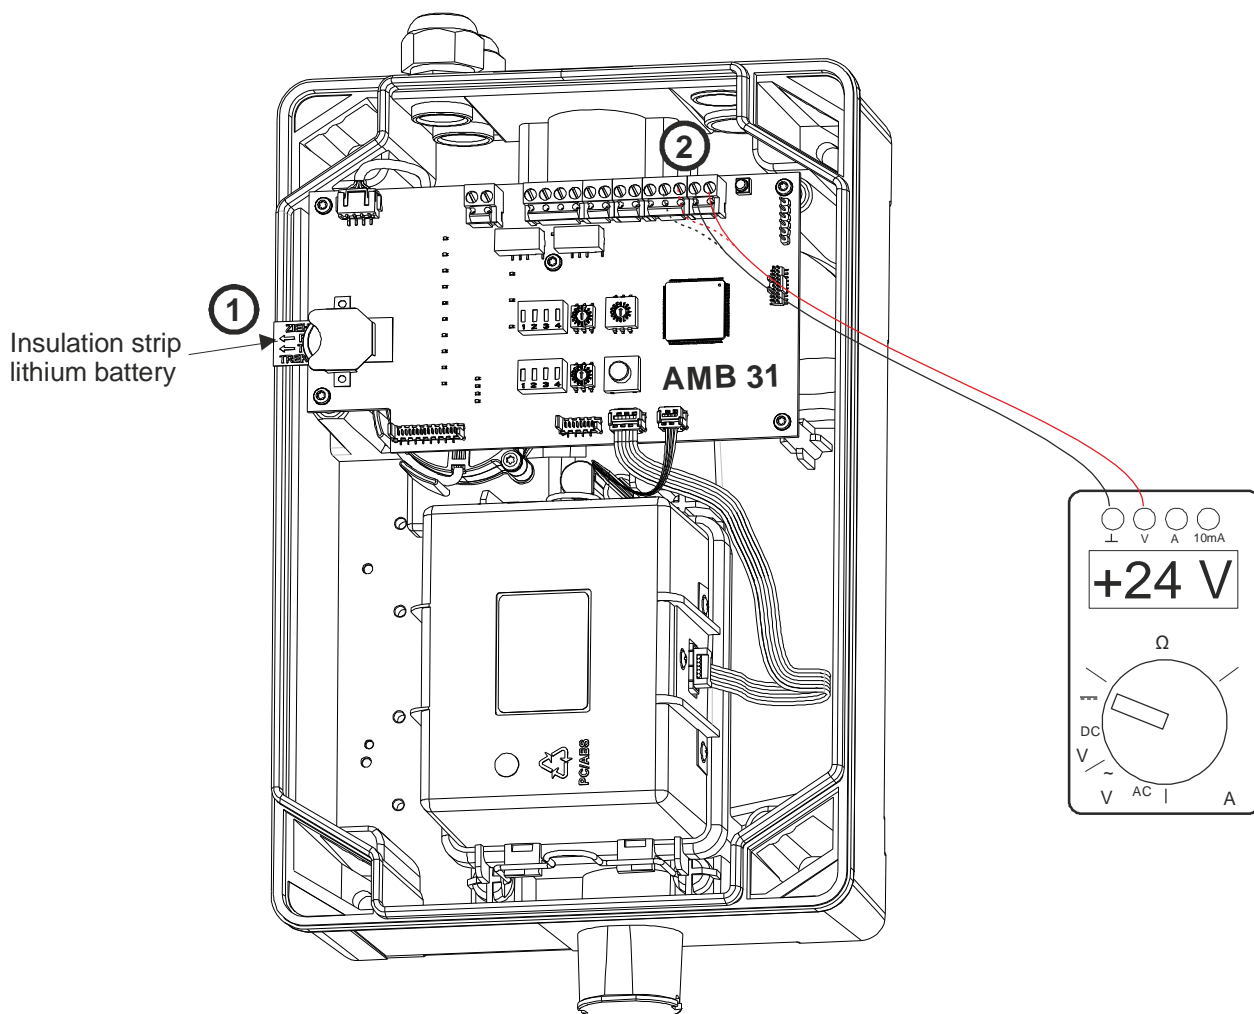

Fig. 46 Detector housing opened for commissioning
- Remove isolation strips of lithium battery (on AMB 31) (see Fig. 46 (1)).
- Check the voltage on terminals 1 and 2 (check also terminals 3 and 4 in the case of a redundant supply): 21.6 to 27.6 VDC (with 24 VDC power supply) (see Fig. 46 (2)).